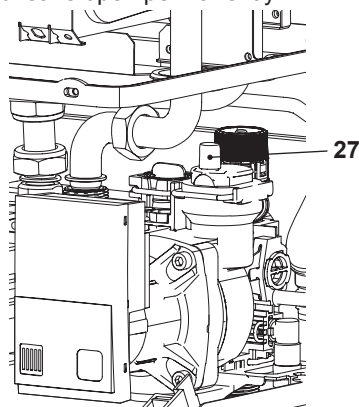

Fig. 7.2
- Unscrew the cap on the automatic air purger valve 27 in Fig. 7.2 one full turn and leave open permanently.